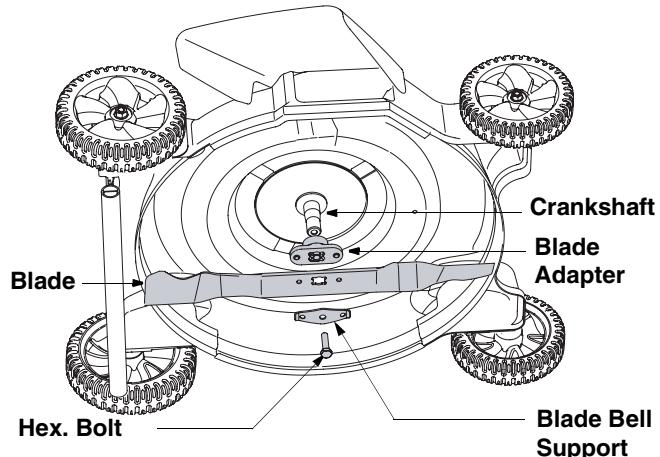

Figure 14
- Remove the bolt and the blade bell support which hold the blade and the blade adapter to the engine crankshaft. See Figure 14.
- Install the blade adapter on the crankshaft with the "star" away from the engine. See Figure 14. Place the blade with the side marked bottom (or with part number) facing away from the adapter. Align the blade bell support over the blade with the tabs in the holes of the blade and insert the hex bolt.